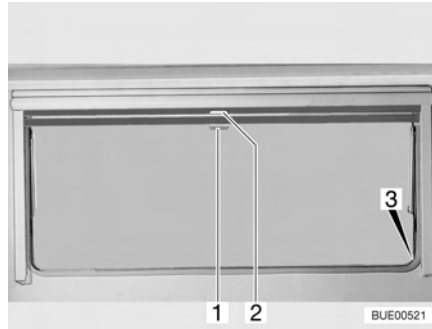

Fig. 21 Hinged window
- Pull blind at the handle (Fig. 21,2) downwards. If the blind is to be completely closed, it is suspended into the locking devices (Fig. 21,3) situated on both sides of the window frame.
- If the blind is completely closed: Press handle (Fig. 21,2) downwards and, at the same time, tilt it slightly inward. The blind can be taken out of the locking devices situated on both sides of the window frame.
- If the blind is in an intermediate position: Pull the handle (Fig. 21,2) slightly downwards until the locking device releases.
- Pull insect screen at the handle (Fig. 21,1) down and hang it into the locking devices (Fig. 21,3) situated on both sides of the window frame.
- Press handle (Fig. 21,1) downwards and, at the same time, tilt it slightly inward. The insect screen can be taken out of the locking devices situated on both sides of the window frame.